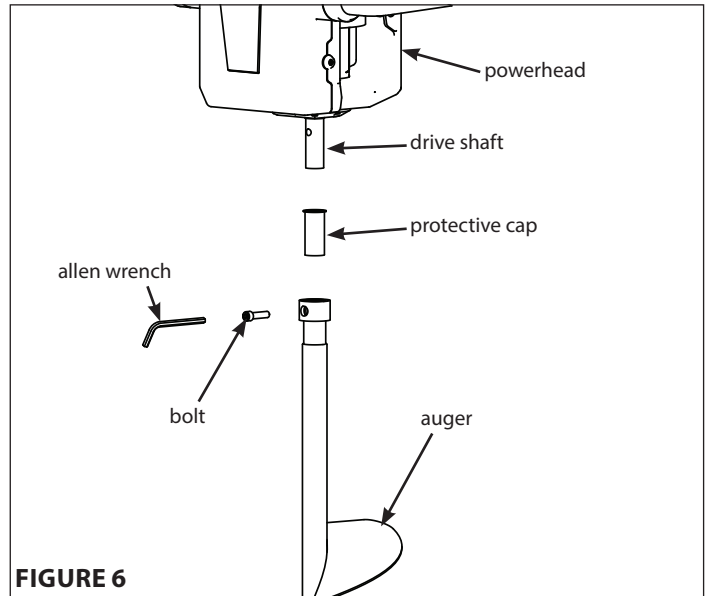

FIGURE 6
- Remove the auger from the powerhead and apply a thin layer of grease to the drive shaft. **SEE FIGURE 6**